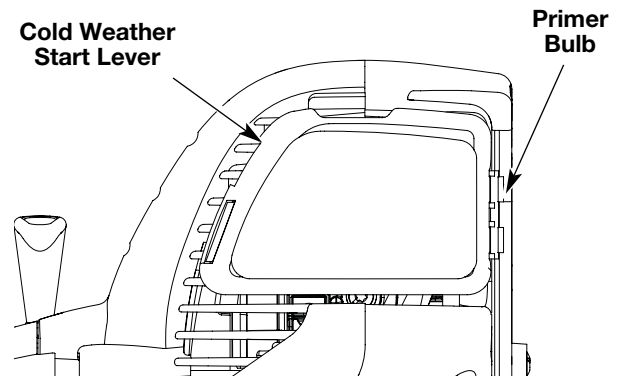

Fig. 10
2. Place the gas container's spout into the fill hole on the fuel tank (Fig. 10) and fill the tank.
3. Fully press and release the primer bulb 10 times, slowly. Some amount of **fuel should be visible in the primer bulb** and fuel lines (Fig. 10). If you can't see fuel in the bulb, press and release the bulb as many times as it takes before you can see fuel in it.